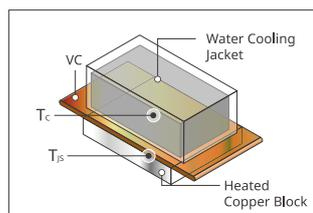
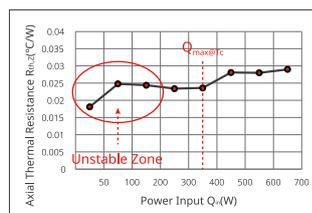

Figure 3. The schematic diagram of the water-cooling jacket VC and its heating copper block
Figure 4. Trend curve of axial thermal resistance $R_{th,z}$ versus heating power Q_{in} by using the water-cooling jacket
The VC performance measurement method is based on the standard <TTMA-VC-2017> set by the Taiwan Thermal Management Association. The performance measurement of VC is to use the condensation water jacket to take away heat. The measured performance indicators of the VC at the set operating temperature T_c are the axial thermal resistance $R_{th,z@Tc}$ of the VC, the radial thermal resistance $R_{th,r@Tc}$ of the VC, the junction temperature $T_{j_s@Tc}$ of the heated copper block and the maximum heat transfer of VC $Q_{max@Tc}$. A high-power heated copper block is used to simulate IC chip heating. It is usually used to simulate and measure the usage of VC in computer CPUs, GPUs, and servers. As shown in Figure 3, the VC is heated from the bottom, and a water-cooling jacket is used on the upper of the VC to dissipate heat. The center temperature (operating temperature T_c) of the VC at cold plate and the temperature $T_{j_s@Tc}$ of the contact between the surface of the heated copper block and the hot plate of the VC are used to calculate the axial thermal resistance $R_{th,z@Tc}$. During measurement, record the changes in axial thermal resistance $R_{th,z@Tc}$ of VC at the set operating temperature T_c under different heating powers (W). When the axial thermal resistance reaches the lowest value, the heating power is $Q_{max@Tc}$ at operating temperature T_c . As shown in Figure 4, when the heating power is 350W, the axial thermal resistance reaches the minimum value, and the $Q_{max@Tc}$ of this VC is 350W.